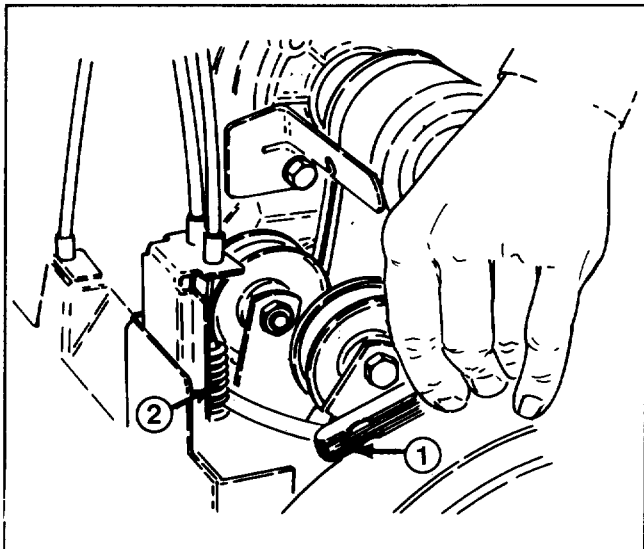

Figure 25
2. CHECKING IMPELLER CABLE ADJUSTMENT—With the engine off, depress the impeller lever on the right handgrip. Hold the lever and insert a .010" (.25mm) feeler gauge between the coil in the center of the spring (Fig. 25). Adjust the cable to achieve .009" - .012" (.23mm - .3 mm) gap between the coils.
8. On control cable which corresponds to belt being replaced, loosen jam nuts securing cable to bracket (Fig. 25). Cable must be free to slide in bracket when changing belt(s).